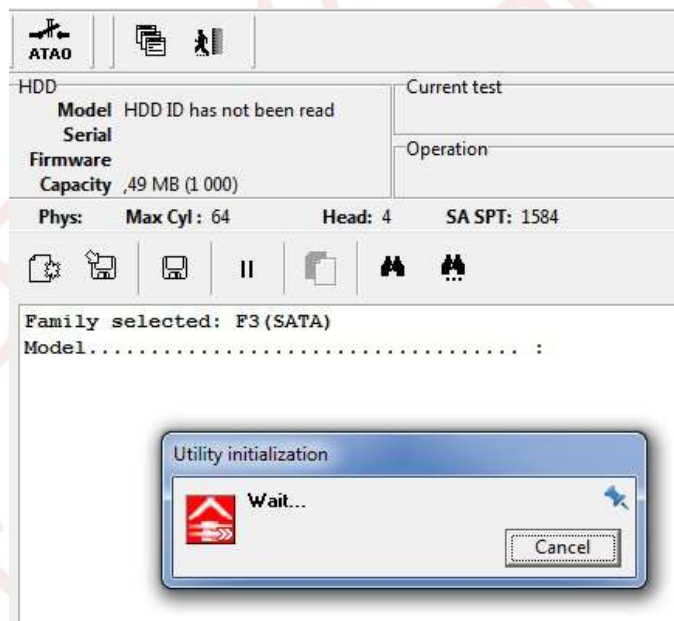

Fig.8.3.
- ◆ Wait until the initialization completes or click Cancel to interrupt it (*Fig. 8.3*).